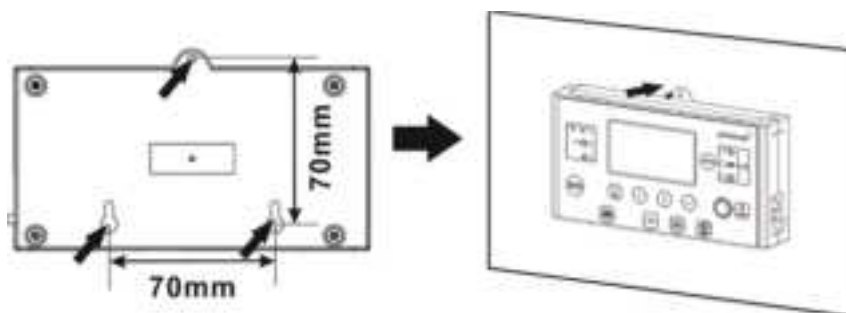

Fig. 12: Remote display mounting hole locations
5. Drill the three mounting holes in the marked distances of 70 mm, 2.76 in into each other (**Fig. 12**, left). Use M3, size no. 4 diameter screws. The screw heads must be between 5 ~ 7 mm, 0.2 ~ 0.3 in. Screw the bottom two screws into the wall where the display module is to be mounted and let the screw heads protrude 2 mm, 0.08 in. from the wall. Slide the display down on the protruding screw heads. Now insert and tighten the third screw at the top (**Fig. 12**, right).